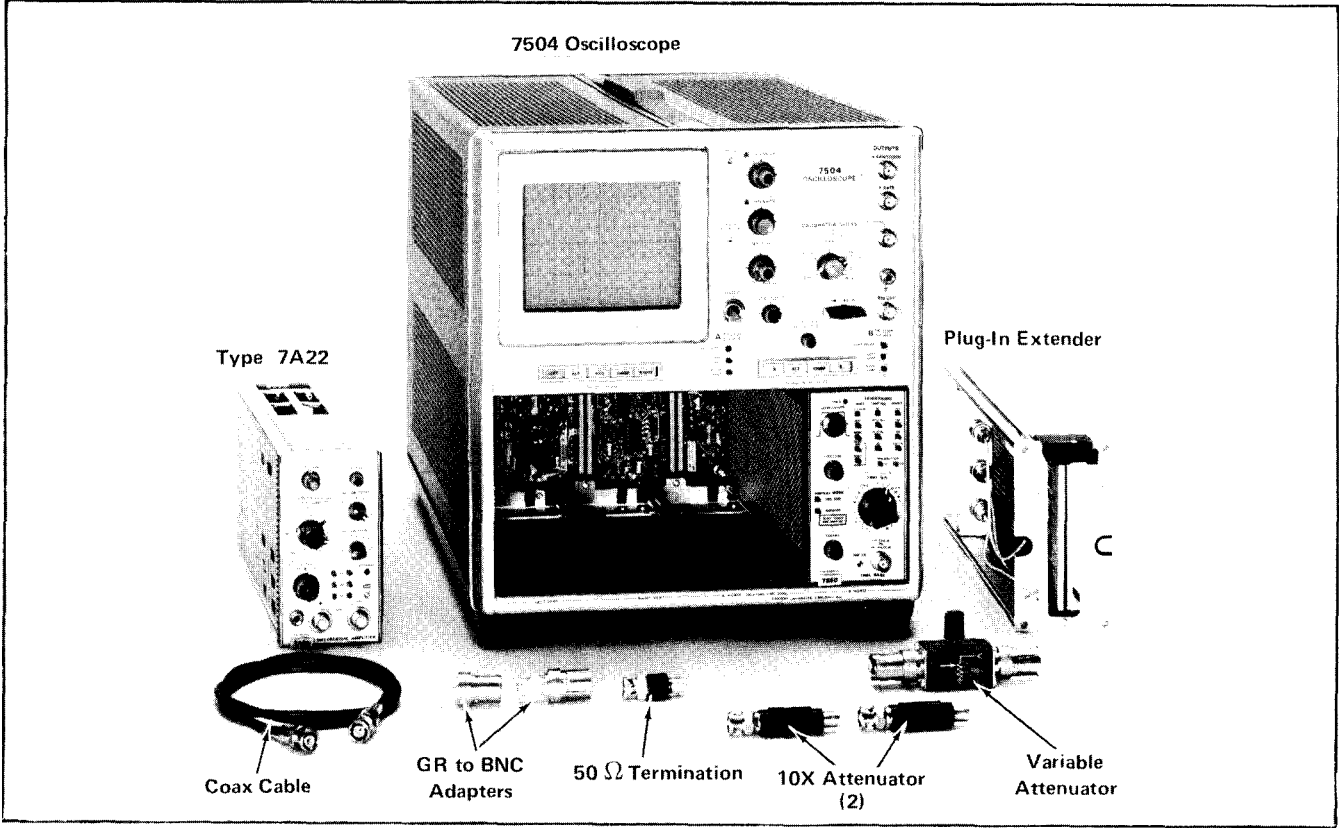

Fig. 5-9. Equipment required for step 25.
- a. Equipment setup is shown in Fig. 5-9.